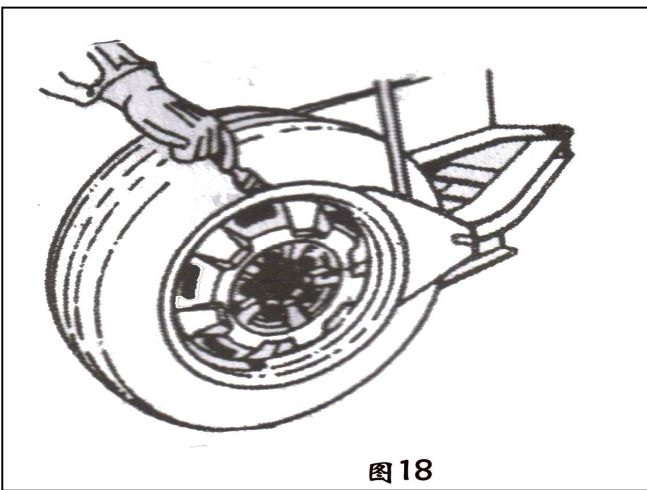

图18
4.1.2 Place the tire between then bead breaking blade and tire pressing runner clog (FIG 18).Then step down the pedal to detach the rim from the tire. Repeat the same operation on the other parts of the tire to make the tire completely detached from the rim.